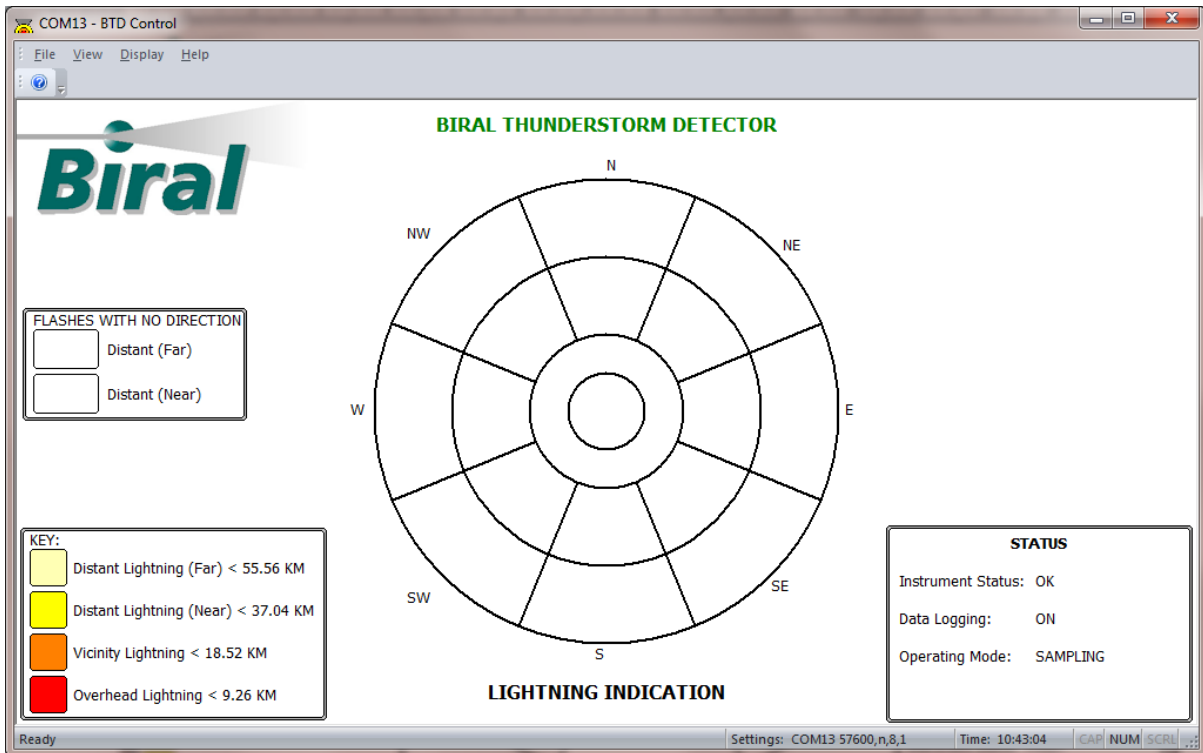

Figure 5.13: Overhead Warning hidden
- View Overhead Warning Box – This checkbox hides or displays the warning of Potential Thunderstorm Activity Overhead display. A tick in the box indicates that the Warning box is displayed. Figure 5.13 below shows the display when the warning box is hidden.